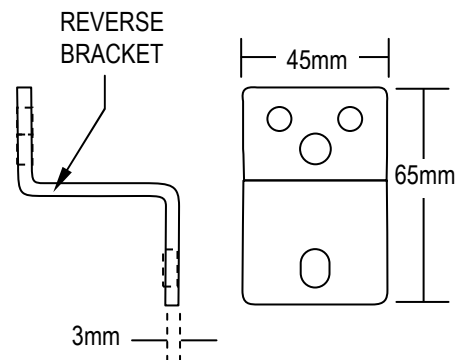

FIGURE 1
- The Reverse Bracket measures approximately (W) 45mm x (H) 65mm x (T) 3mm. as shown in Fig.1.